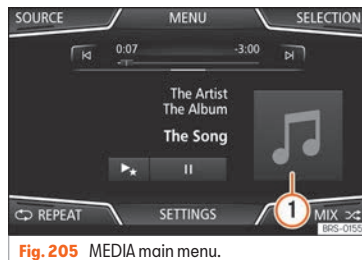
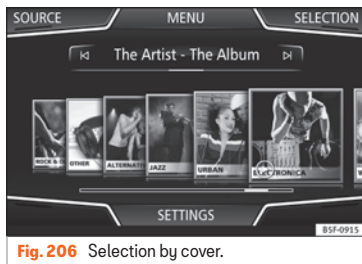
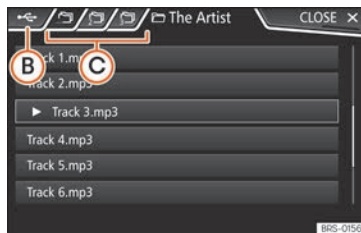

Fig. 205 MEDIA main menu.
Fig. 206 Selection by cover.
Fig. 208 Media Mode: list of tracks of a Media source.
Clicking on the current cover **»» Fig. 205 ①** will display all of the album covers available in the active Media source **»» Fig. 206**.
- Press the **[SELECT]** function button on the **MEDIA** main menu **»» Fig. 205** to open the track list. The track that is playing is highlighted **»» Fig. 208**.